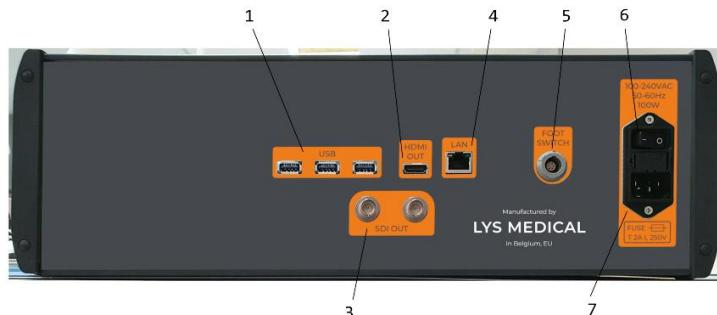
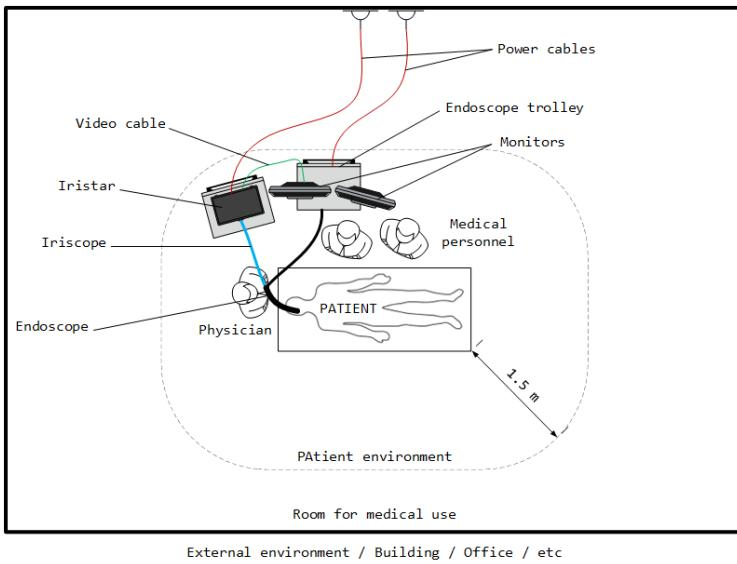

Figure 5 - Control box rear
Figure 11 - Device setup in the endoscopy suite
1. Install the control box in the endoscopy suite 1 m from the patient at most and close to the endoscopy trolley (see Figure 11) making sure that the ON/OFF switch and the power cable (see No. 6 and No. 7 of Figure 5) are always accessible to disconnect the control box.
2. Connect the various cables to the control box (see Figure 5 to check the position of the various ports):